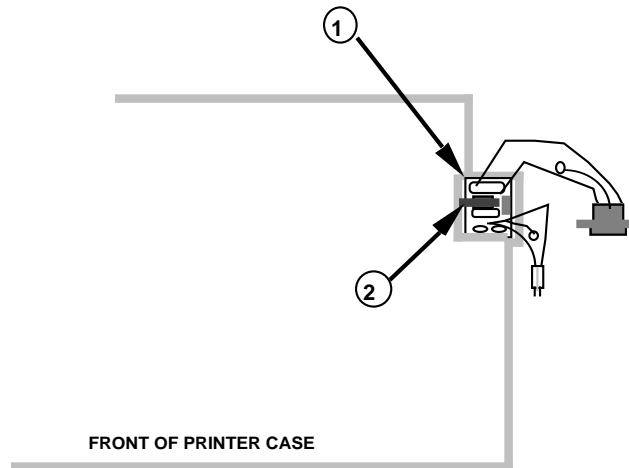
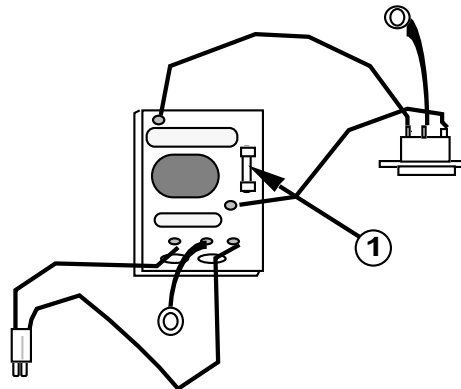

FIGURE 26
FIGURE 27
2. Locate the noise filter PCB in the right support leg (Figure 26, #1).
3. Lift the tab (Figure 26, #2) and lift out the noise filter PCB assembly (Figure 27).
4. Check the fuse on the noise filter PCB (Figure 27, #1) with a multimeter. Refer to Section 3, Troubleshooting, for more information.
1. Lift the tab (Figure 26, #2) and slide the noise filter PCB assembly into place.